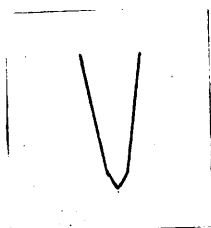
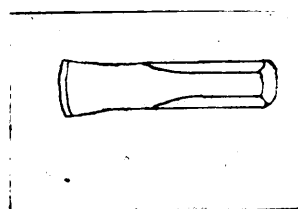

Figure 5.
Figure 6.
4. Grind cutting edge to a  $60^\circ$  angle. (Figure 5). Curve the end slightly as shown in Figure 6. In grinding do not let the chisel burn, because the burning would reduce the percent of carbon. Remove the chisel from the stone frequently.